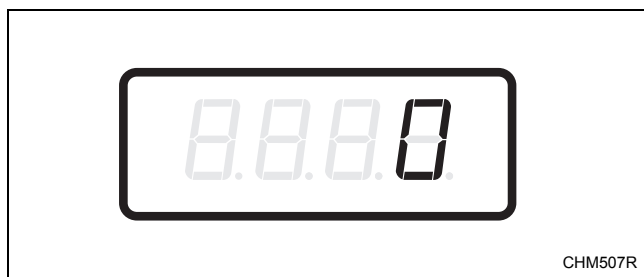

Figure 19
4. When “AtS8” appears in the display, press the START (enter) keypad. There are five digits in the Delicate Warm Vend Price. The fifth digit will appear in the display and will flash one (1) second on, one (1) second off. Refer to *Figure 19*.